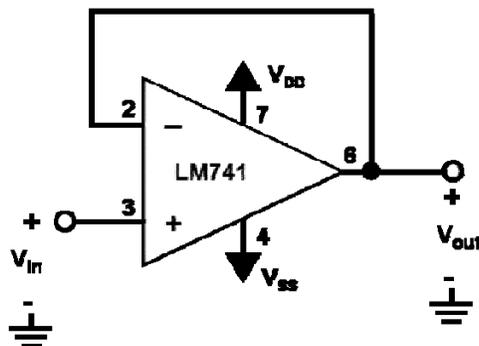

Figure 2: The voltage follower
3. On your breadboard, build the op amp circuit shown in Figure 2. The numbers correspond to the appropriate pin of the LM741. V_{DD} and V_{SS} will be supplied by the DC power supply. Set $V_{DD} = 10V$ and $V_{SS} = -10V$.